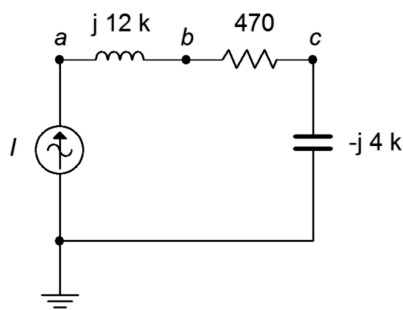

Figure 2.33
51. For the circuit of Figure 2.33, v_{ac} , v_b and v_c . The source is 5 mA peak at 8 kHz.